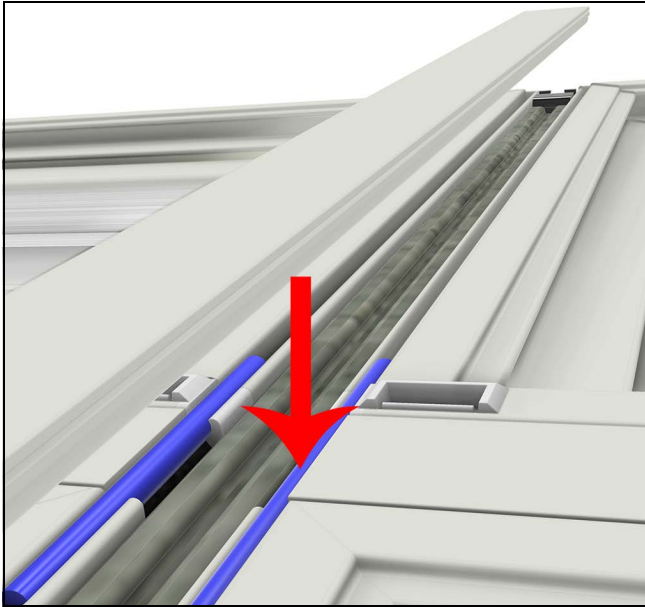

Figure 18 Vertical mull
3. Ensure legs of accessory kerfs are cut away at the intersection to avoid damage to the mull covers. Cut out Ultrex accessory kerf walls to allow vertical mull cover to be fully seated. See Figure 18. Seat cover with a rubber mallet or wood block and hammer. Make sure the joints are tight.